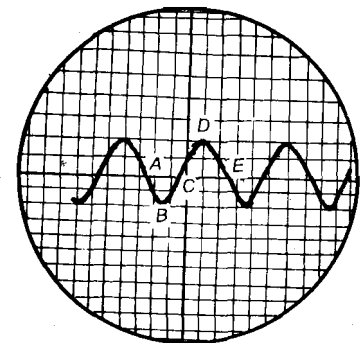

Fig.9.4: Wave form of the signal on the CRO screen
8. Turn the time base control on and set the trigger control to **automatic**. Adjust the x -shift, y -shift and time base controls to obtain a stable sinusoidal wave form on the screen as shown in Fig.9.4.
2. Count the number of divisions along the y -axis covered between points B and D of Fig.9.4. Note down the distance d , in cm, between these points:.....cm
2. Use the *x*-shift to adjust the wave form so that either point *A* or *E* shown in Fig. 9.4 touches a vertical line.